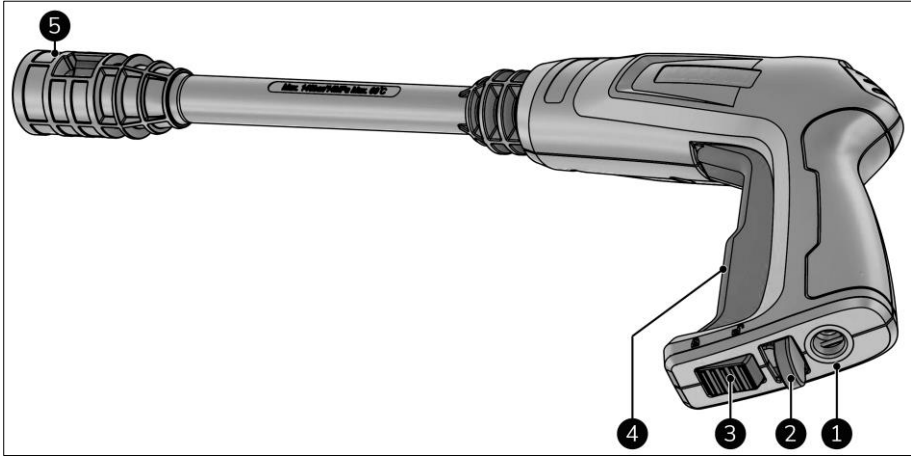

Figure 6
3. Squeeze the trigger (Figure 6, pos. 4) and start cleaning.
1. If applicable, release the trigger (Figure 6, pos. 4).
2. Lock the safety lock under the trigger (Figure 6, pos. 3).